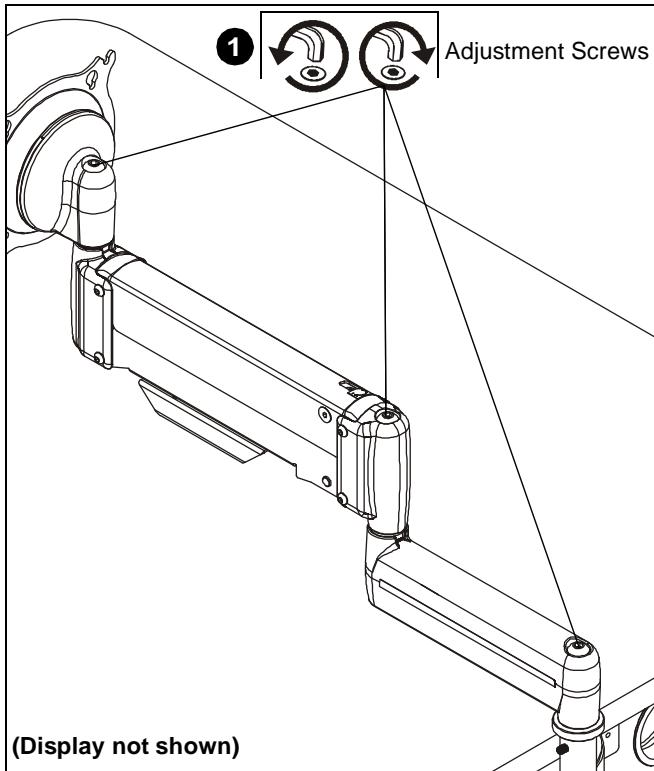

Figure 8
1. Using 3/16" hex key (U), slightly loosen or tighten the adjustment screw(s) as necessary (See Figure 8).